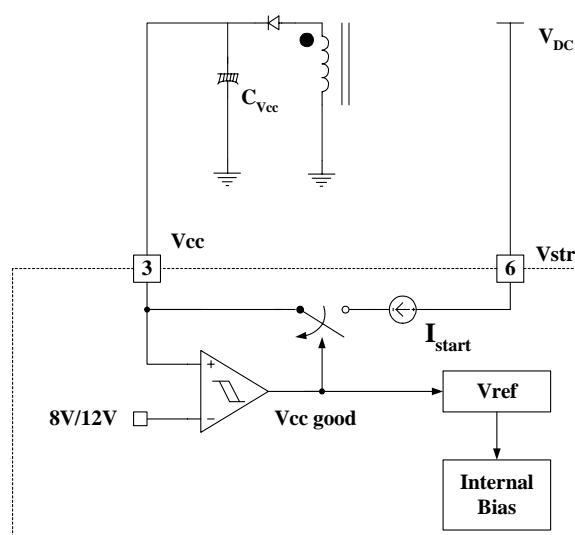

Figure 4. Internal startup circuit
1. Startup : In previous generations of Fairchild Power Switches (FPS™) the Vcc pin had an external start-up resistor to the DC input voltage line. In this generation the startup resistor is replaced by an internal high voltage current source. At startup, an internal high voltage current source supplies the internal bias and charges the external capacitor (C_{Vcc}) that is connected to the Vcc pin as illustrated in Figure 4. When Vcc reaches 12V, the FSDM07652RB begins switching and the internal high voltage current source is disabled. Then, the FSDM07652RB continues its normal switching operation and the power is supplied from the auxiliary transformer winding unless Vcc goes below the stop voltage of 8V.